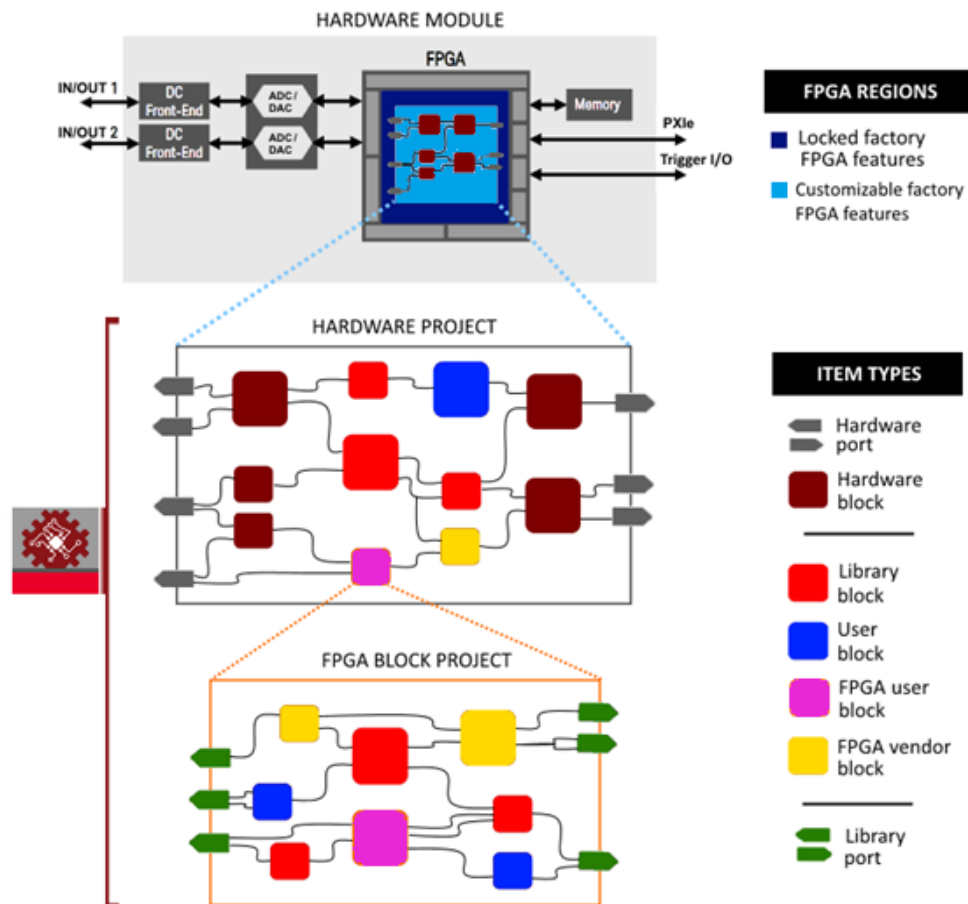

Figure3 Ports, blocks and Project relations
- Draws on a large body of FPGA solving building blocks (see Figure 2 and Figure 3)
2. Assembles the solution (see also figure 3)
Figure3 shows the relation between the different types of blocks available in M3602A. The control of the main digital interfaces is kept out of the reach (locked FPGA features in the FPGA project) of the customizable area of the FPGA
Associated with the hardware blocks are **hardware ports** as shown in Figure 3. These ports are locked so that the user cannot remove them. They are only available in hardware projects and are responsible for communications between the internally configurable FPGA part (the FPGA customizable space which user can edit) and the rest of FPGA.
A hardware project contains the customizable resources of the programmable FPGA of an M3xxxA hardware module. When selecting a target module, the project is opened with the factory settings of a standard module. The custom on-board solution is developed within this hardware project and is saved, compiled and loaded into the hardware module (the binary can be loaded into multiple identical modules). As per Figure 3, part of the hardware project can be made up of FPGA user block projects, which are created as follows.
The purpose of an FPGA Block project is to create independent user FPGA blocks. They can be designed to provide custom functionality to other projects. These blocks once created, can be saved and reused in other hardware projects, and in other FPGA Block projects as shown in Figure 3.